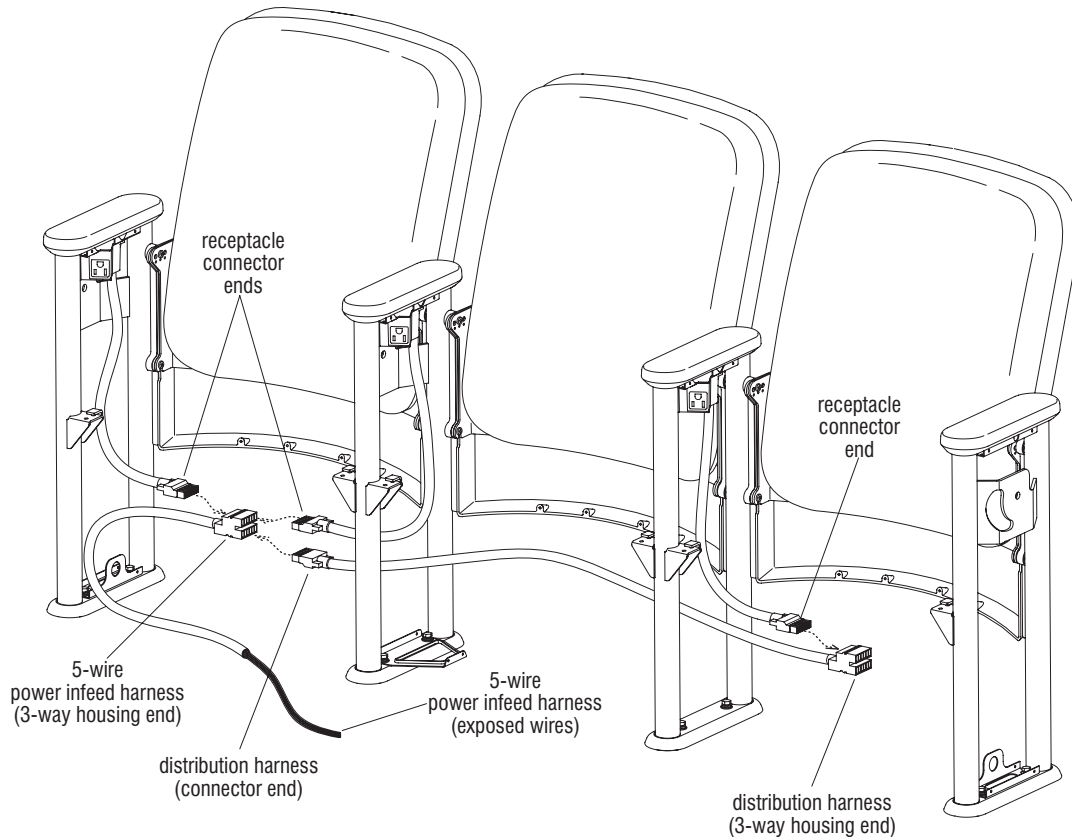

Figure 3
**Note:** Follow the space-planning layout provided (also reference Power Infeed examples on page 20) to stage electrical components as specified. The simplex receptacle in each powered upright will have a length of flexible conduit with a connector end on it. At power infeed location(s), a 5-wire power infeed harness is used to begin distribution of the power. 46", 49" and 52" distribution harnesses run to every other seat, passing power to each individual seating location (Figure 3). A 25" distribution harness is used with a mid-row power infeed and at the end of a row with an odd number of seating locations.
2. At the power infeed location, connect the two receptacle connector ends into the "3-way housing end" of the 5-wire power infeed harness as illustrated. **Do not** connect the exposed 5-wire end of the power infeed harness to a power source at this time (Figure 3).
3. Plug the connector end of the power distribution harness into the remaining location in the "3-way housing end" of the power infeed harness. Route the "3-way housing end" of the distribution harness between the next two sets of leg uprights and connect the receptacle connector end into it as illustrated (Figure 3).
**Note:** Figure 3 illustrates a three-place unit where one distribution harness is used and is the end of the power run. When power is to continue on, as with four or more seats, a simplex receptacle connector end and another distribution harness will plug into the "3-way housing end" of the first distribution harness. (reference power infeed examples on page 20).